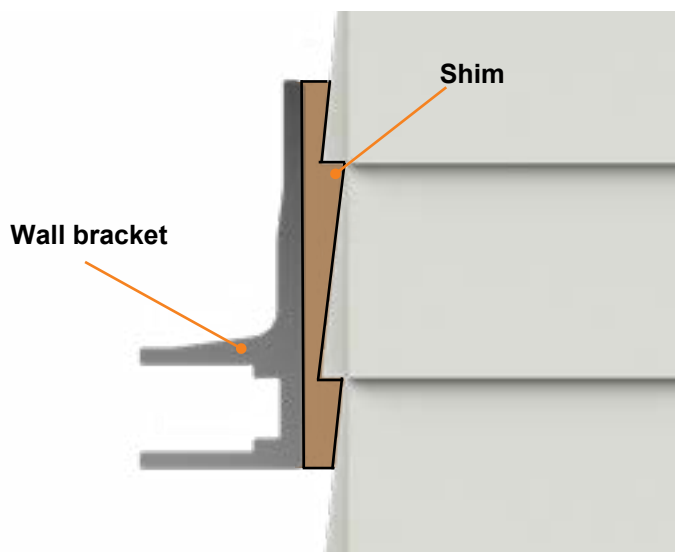

Fig.18
- For installation on siding that is ridged or layered, shims will be needed to create a flat, even surface for mounting. Shims are not included, but may be fabricated or purchased according to Figure 18.
NOTE: For siding with ridges or an uneven profile, shims are required for installation. See Figure 18 for an example.